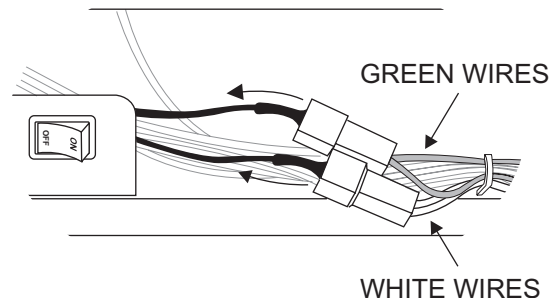

Figure 18
"IP" Valve - Locate the two 5-1/2-inch long black wires connected to the ON/OFF switch. Disconnect these two black wires at the green and white wire connections. Attach the flag terminals (the low voltage wire assembly found in the Instruction Packet) to the green and white wire connections. **See Figures 18 and 19.**
- b. For IP valve connections, locate the green and white wires from the control module, then connect the switch wire flag terminals to the green and white wire terminals. **See Figures 18 and 19.**
- 2b. Attach the flag terminals to the green and white wire terminals located in the bottom of the insert near the gas valve. **See Figures 18 and 19.**